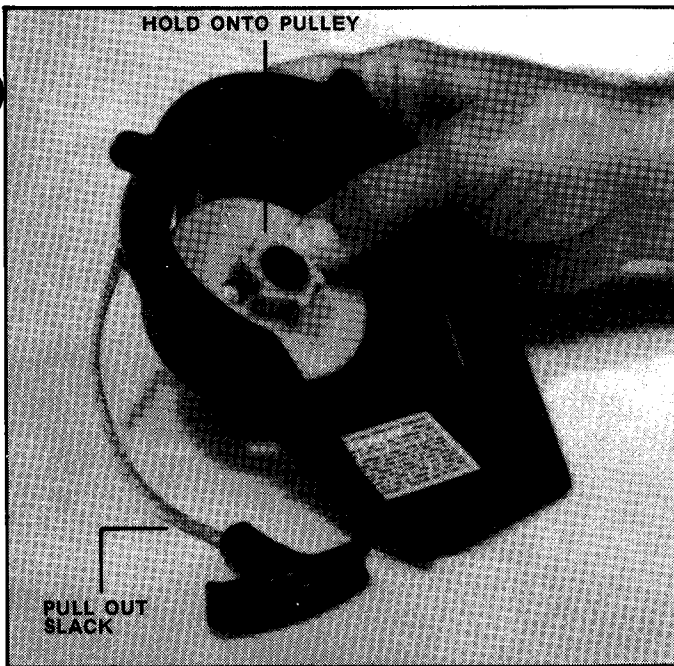

FIGURE 7.2
7.2 If repair is required, remove the screw and pulley retainer from inside the housing. Carefully lift up on the pulley. If the recoil spring is being lifted with the pulley replace the pulley to its position. Pull the rope handle out a few inches. Hold the pulley from recoiling and drop the rope free. See Figure 7.2
A. If the rope does not completely retract pull the rope handle approximately 8 inches and hold the pulley to prevent it from recoiling. Pull the slack rope to the inside of the housing and wind the pulley one additional turn. Pull the slack rope to the outside of the housing and slowly release the pulley. Refer to Figure 7.2.